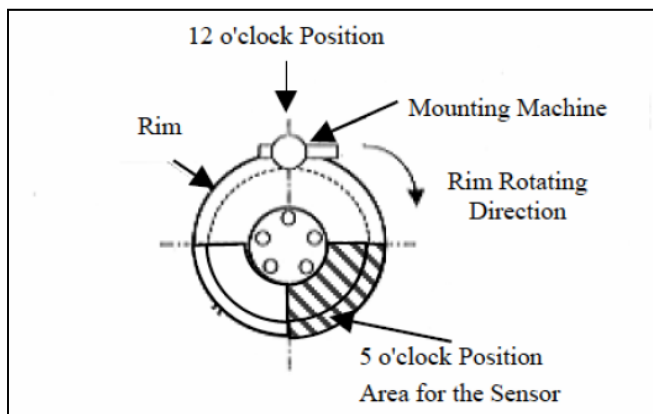

Figure 7b
- d. Re-position the wheel on the mounting machine with the sensor at 5 o'clock position. See Figure 7b (Shaded Area).